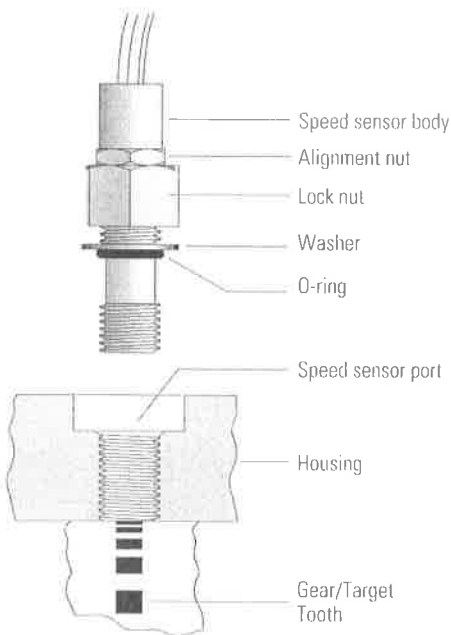

Figure 19
2. Make sure the lock nut and its threads are clean and dry for the proper torque. Position the lock nut against the alignment nut as shown in Figure 19.
3. Move the washer and the o-ring up against the speed sensor body threads as shown in Figure 19.